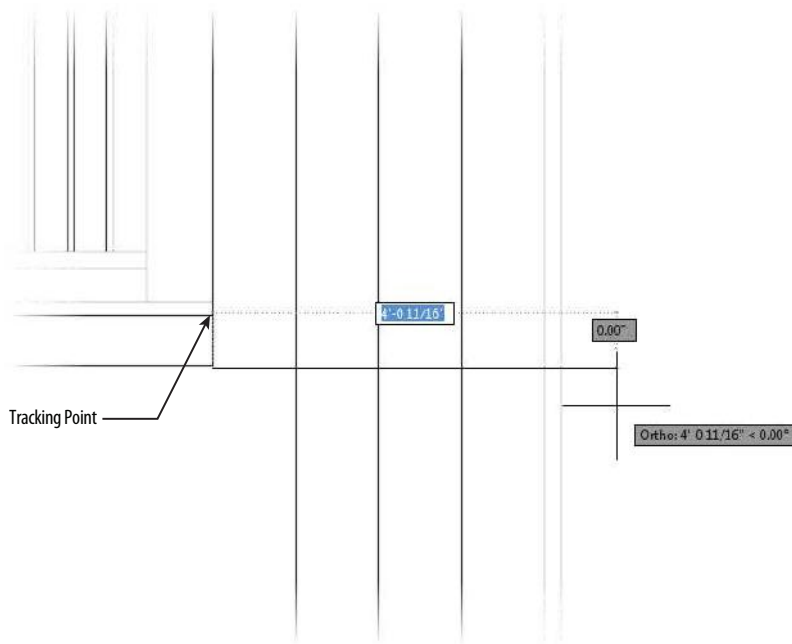

FIGURE 10.26: Drawing the first step tread
2. Using Object Snap Tracking and direct input, draw a line from a point 8" (204 mm) below the top of the deck directly to the right, well beyond the last vertical step line, as shown in Figure 10.26.